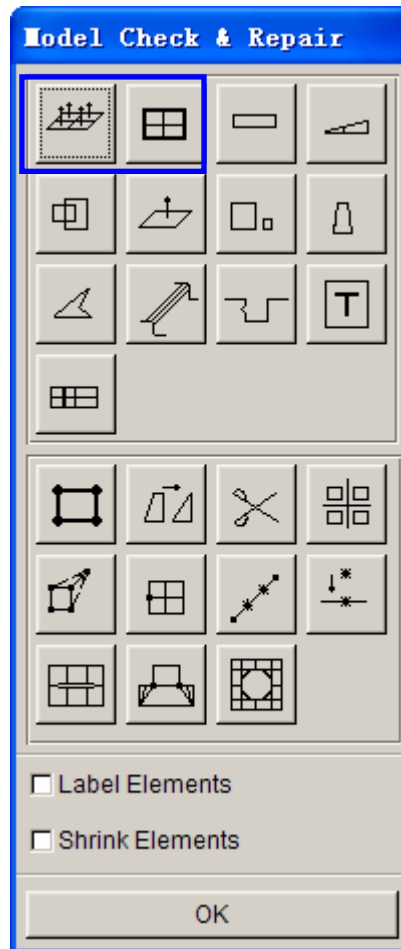

Figure 32: Mesh check & repair dialog box
1. Select **Auto Plate Normal** from the **Model Check/Repair** dialog box shown in Figure 32. A new dialog will be displayed.